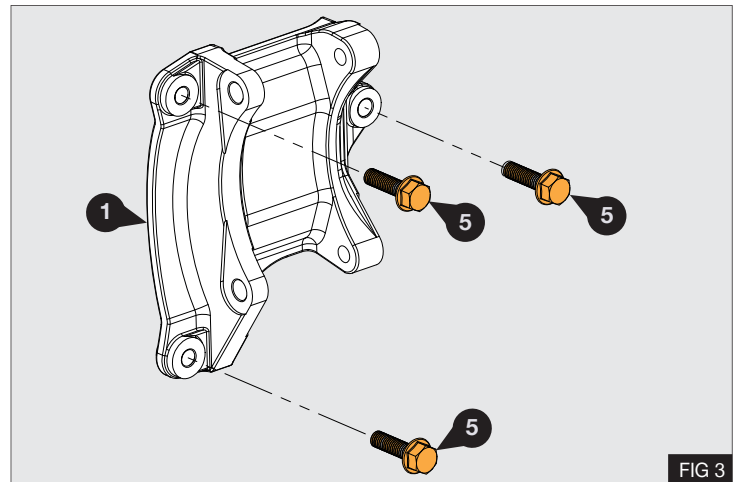

FIG 3
1. Install the supplied compressor mount bracket **1** into the position previously taken by the original mounting bracket using bolts **5** M8 x 30 - Fig 3